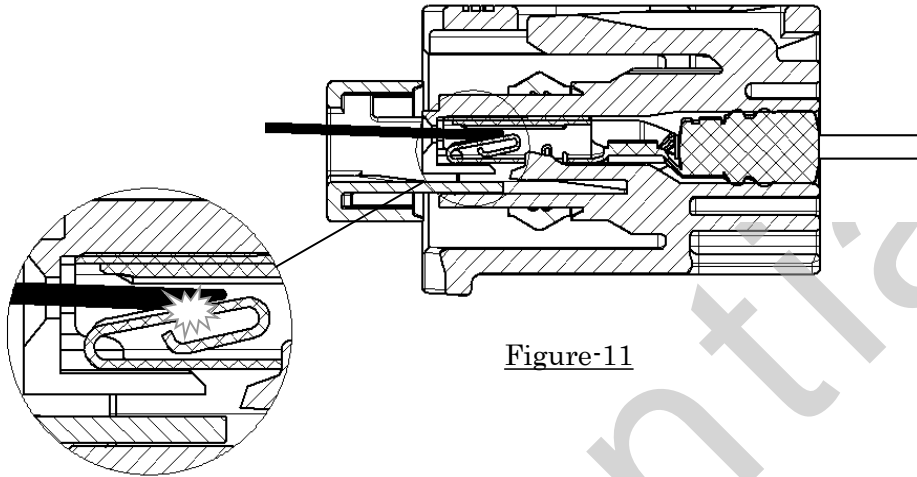

Figure-11
- Do not insert the removal tool in the female terminal. (See figure-11)